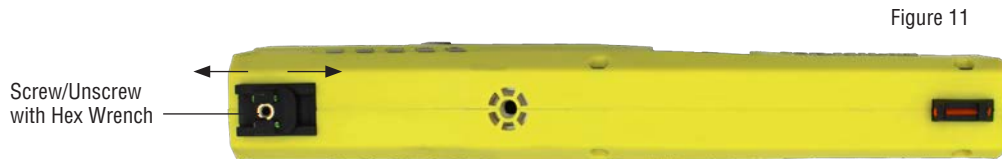

Figure 11
2. Slide the rear sight on the scale to bring it into position (Figure 11).